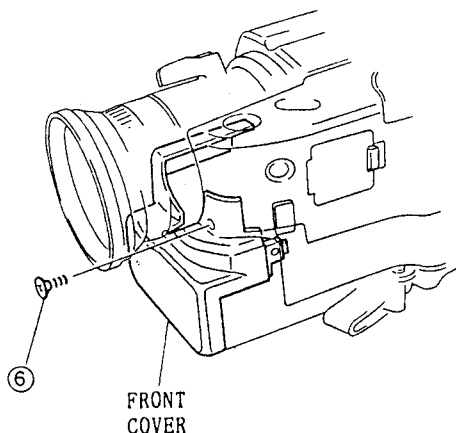

Fig. 2-10
7. Remove the front cover. (See Fig. 2-10)
6. Remove one (1) screw holding the front cover. (See Fig. 2-10)